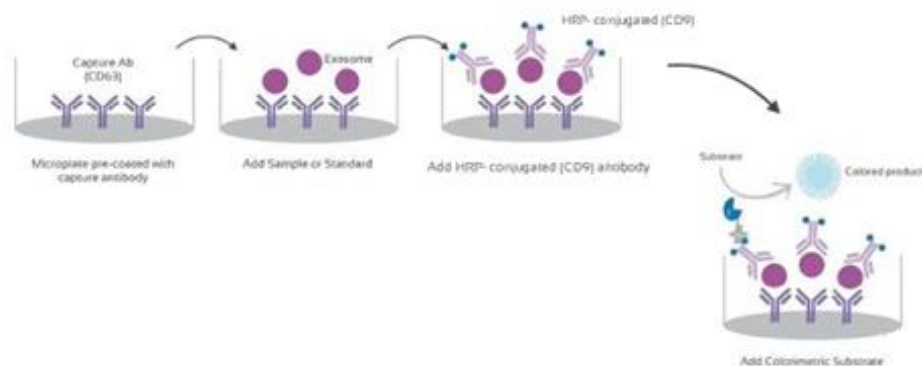

Figure 1: Indirect ELISA graphical representation
3. We need to mix 200 µl from Eppendorf n°1 (1/1 dilution) to Eppendorf n°2 (1/2 dilution). Repeat this process until the 1/1024 dilution is completed (figure 1). Last well should contain only diluent buffer. This is the point that we will use as blank.